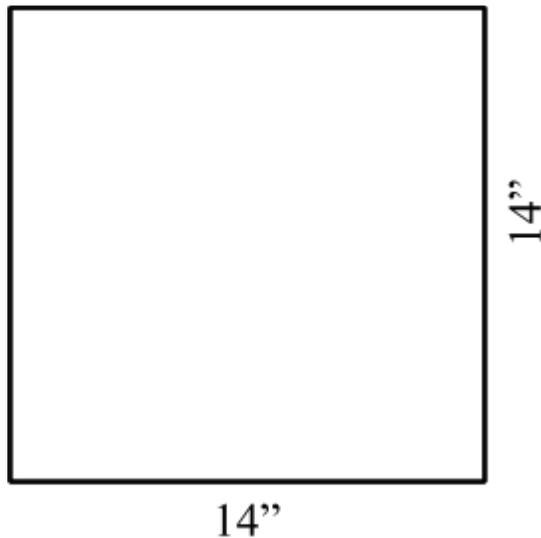

Figure R081
1. The length shall not exceed 14 inches (Figure R081)
2. The width shall not exceed 14 inches (Figure R081)
3. The height shall not exceed 24 inches (Figure R081)